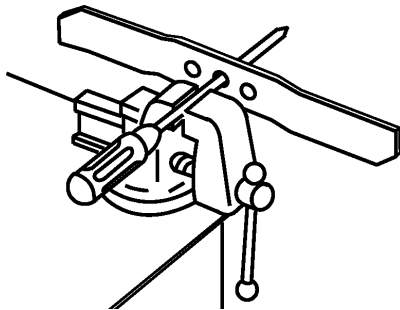

Figure 30
1. Check the balance of blade by placing the center hole of blade over a nail or screwdriver shank clamped horizontally in a vise (Fig. 30).